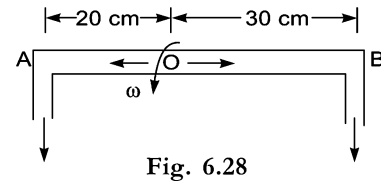

Fig. 6.28
**Problem 6.36** A lawn sprinkler with two nozzles of diameter 4 mm each is connected across a tap of water as shown in Fig. 6.28. The nozzles are at a distance of 30 cm and 20 cm from the centre of the tap. The rate of flow of water through tap is  $120 \text{ cm}^3/\text{s}$ . The nozzles discharge water in the downward direction. Determine the angular speed at which the sprinkler will rotate free.
The jet of water coming out from nozzles A and B is having velocity 4.777 m/s. These jets of water will exert force in the opposite direction, i.e., force exerted by the jets will be in the upward direction. The torque exerted will also be in the opposite direction. Hence torque at B will be in the anti-clockwise direction and at A in the clockwise direction. But torque at B is more than the torque at A and hence sprinkle, if free, will rotate in the anti-clockwise direction as shown in Fig. 6.28.
Here  $\omega \times r_A$  is added to  $V_A$  as  $V_A$  and tangential velocity due to rotation ( $\omega \times r_A$ ) are in the same direction as shown in Fig. 6.28.